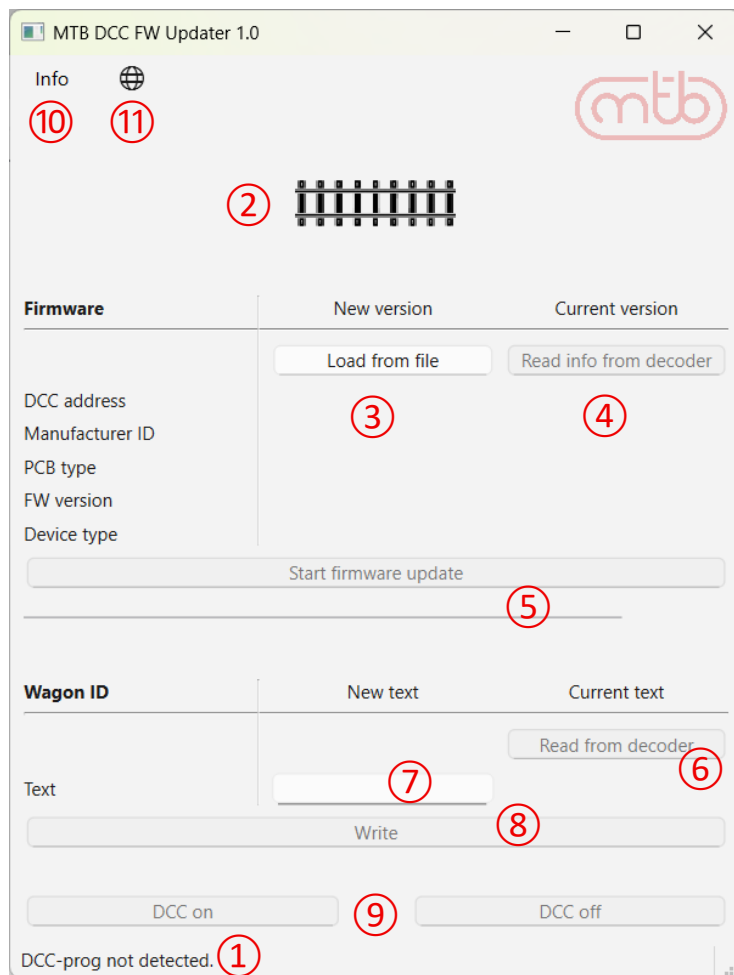

Fig. 5: Application on startup without connected DCC-program
1. Launch the MTB DCC FW Updater application. The window shown in Fig. 5 will open.